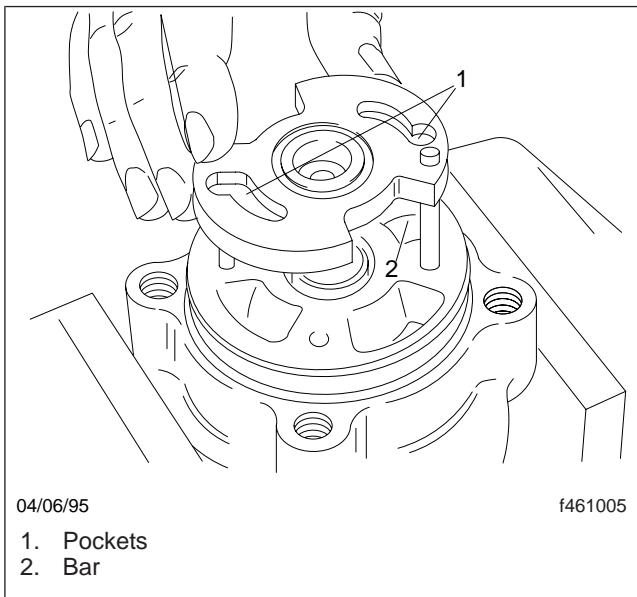

Fig. 30, Installing the Bottom Plate
8. Install the bottom plate with the pockets facing up. See Fig. 30. Make sure that the marks made during disassembly are aligned.